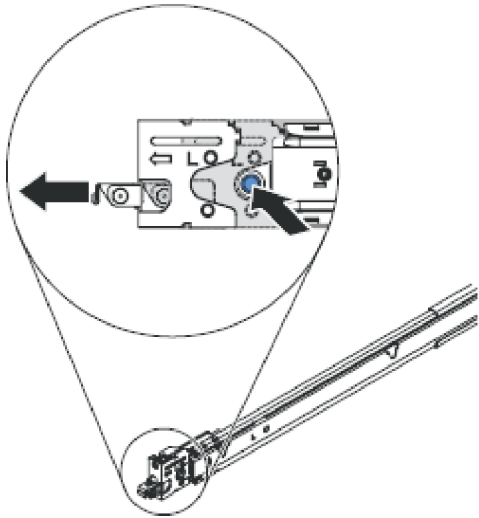

Figure 23. Preparing the front end of the slide rails
4. Prepare the front end of the slide rails, as shown in Figure 23 on page 28.